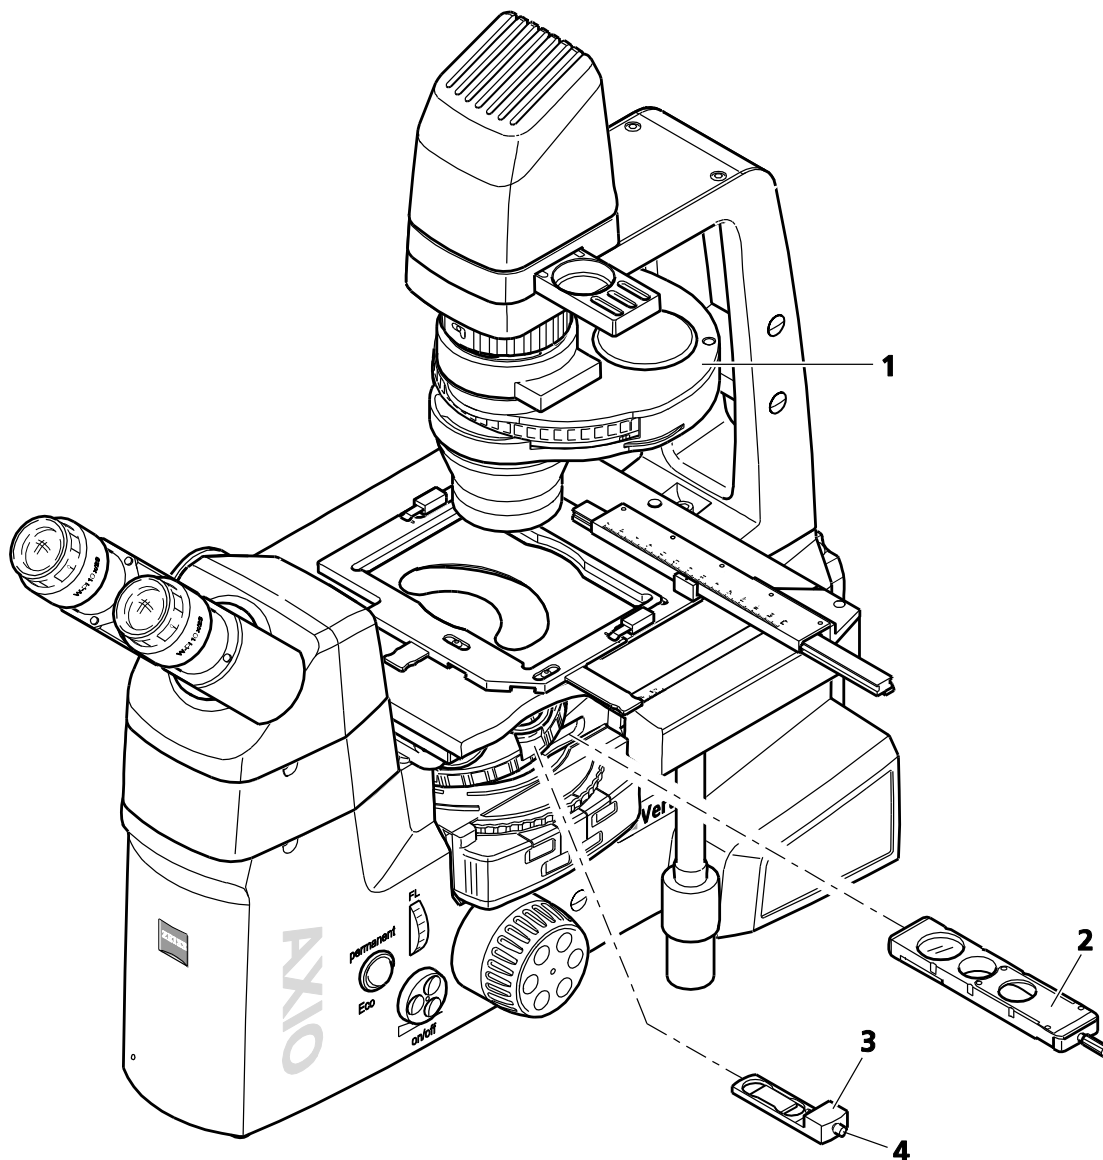

Fig. 4-9 Setting DIC
- Put the corresponding DIC slider (Fig. 4-9/3) into the slot on the nosepiece. Make sure the DIC slider snaps safely into position.
- On the condenser, (Fig. 4-9/1) rotate the proper DIC I, II or III condenser module (as identified by the stickers on the front of the condenser) into the light path.
- Put the three-position contrast slider (Fig. 4-9/2) with the analyzer position into the stand or rotate in the D P&C analyzer module on the reflector turret. Watch for the correct locking position.
- Adjust optimum contrast, using the knurled thumb screw on the DIC slider (Fig. 4-9/4). By adjusting the DIC slider symmetrically around its middle position, you can render specimen details spatially as though they were raised or recessed.
- Rotate in the PlasDIC diaphragm on the condenser (Fig. 4-9/1) with modulator disk (or move the PlasDIC position of the slider on the condenser into the light path). Brightness may have to be increased, as appropriate, when you change from bright field to PlasDIC.
- When employing a PlasDIC slider, rotate the D P&C analyzer module of the reflector turret into the light path or move the three-position contrast slider with the analyzer position (Fig. 4-9/2) into the slot under the nosepiece. If you use the PlasDIC module with the three-position contrast slider, no analyzer will be required.
- On the nosepiece, place the PlasDIC slider (Fig. 4-9/4) into the DIC slot of the objective used or move the PlasDIC module, sitting in the slider, into the light path.
- Set the contrast via the knurled thumb screw of the PlasDIC slider (Fig. 4-9/5) or of the PlasDIC module. Structures may be shown in relief or in pseudo dark field images. Relief imaging delivers the best contrast.